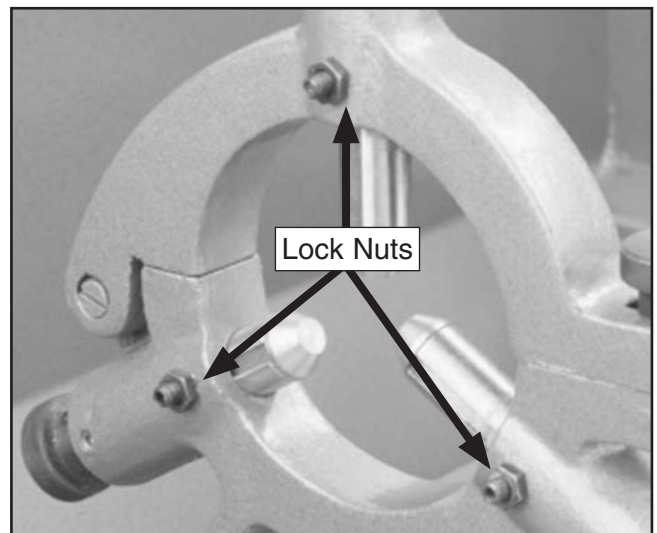

Figure 34. Steady rest lock nuts.
1. Loosen the lock nuts. See **Figure 34**.